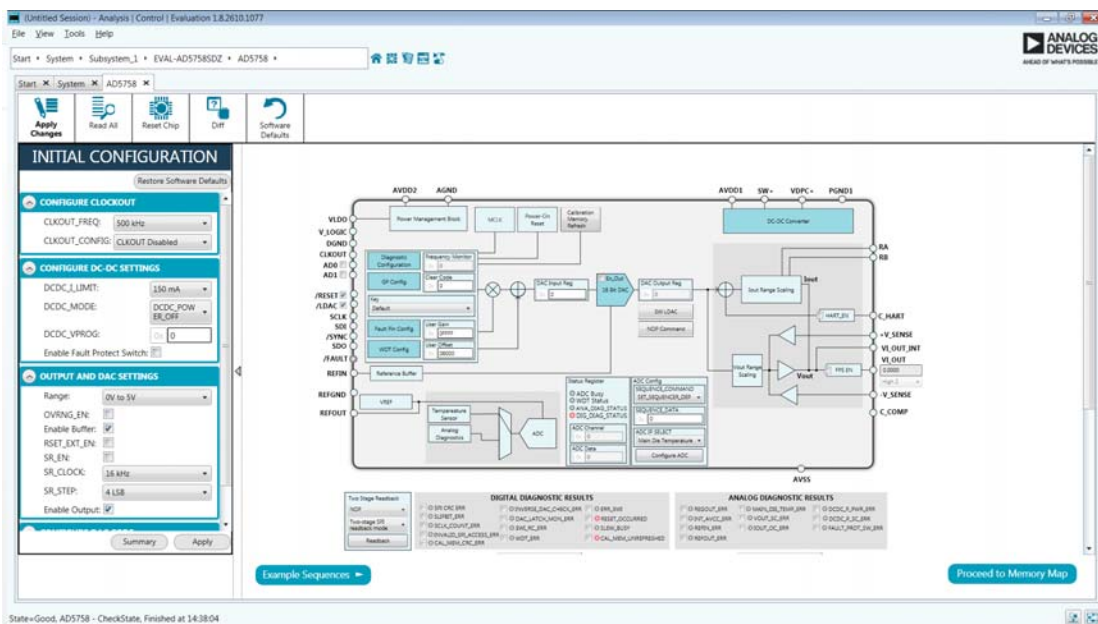

Figure 7. AD5758 Block Diagram in the ACE Software
7. Double-click EVAL-AD5758SDZ to open the **AD5758** block diagram (see Figure 7). The **INITIAL CONFIGURATION** menu appears on the left. This location is where several register settings can be configured and are written to the device in the appropriate order. The **DIG_DIAG_STATUS**, **RESET_OCCURED**, and **CAL_MEM_UNREFRESHEDLED** indicators are highlighted red by default. Writing the initial configuration values clears these error flags. If the device is power cycled, or if the USB cable is disconnected and reconnected while the **ACE** software is open, contact with the EVAL-AD5758SDZ may be lost. If contact is lost, click the **System** tab. Then, click the **USB** symbol on the EVAL-AD5758SDZ, and then click **Acquire** to communicate with the EVAL-AD5758SDZ again.